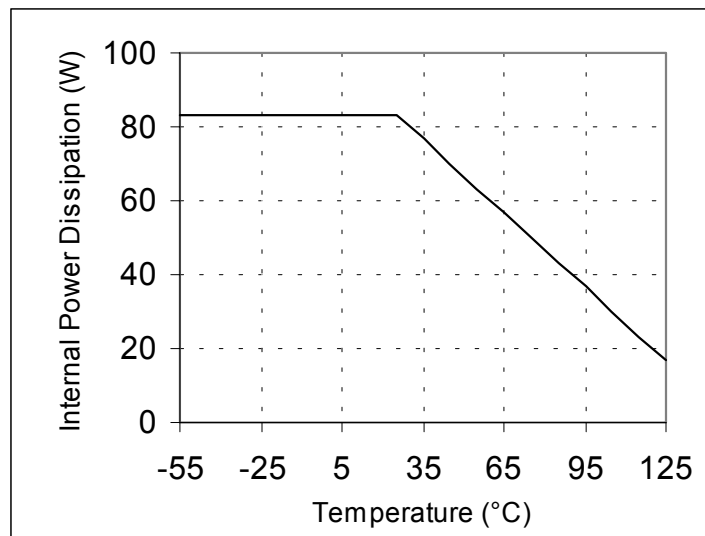

Figure 3. Maximum Average Power Dissipation vs. Case Temperature
4. Case Temperature $T_C = 25^\circ\text{C}$ (see Figure 3).